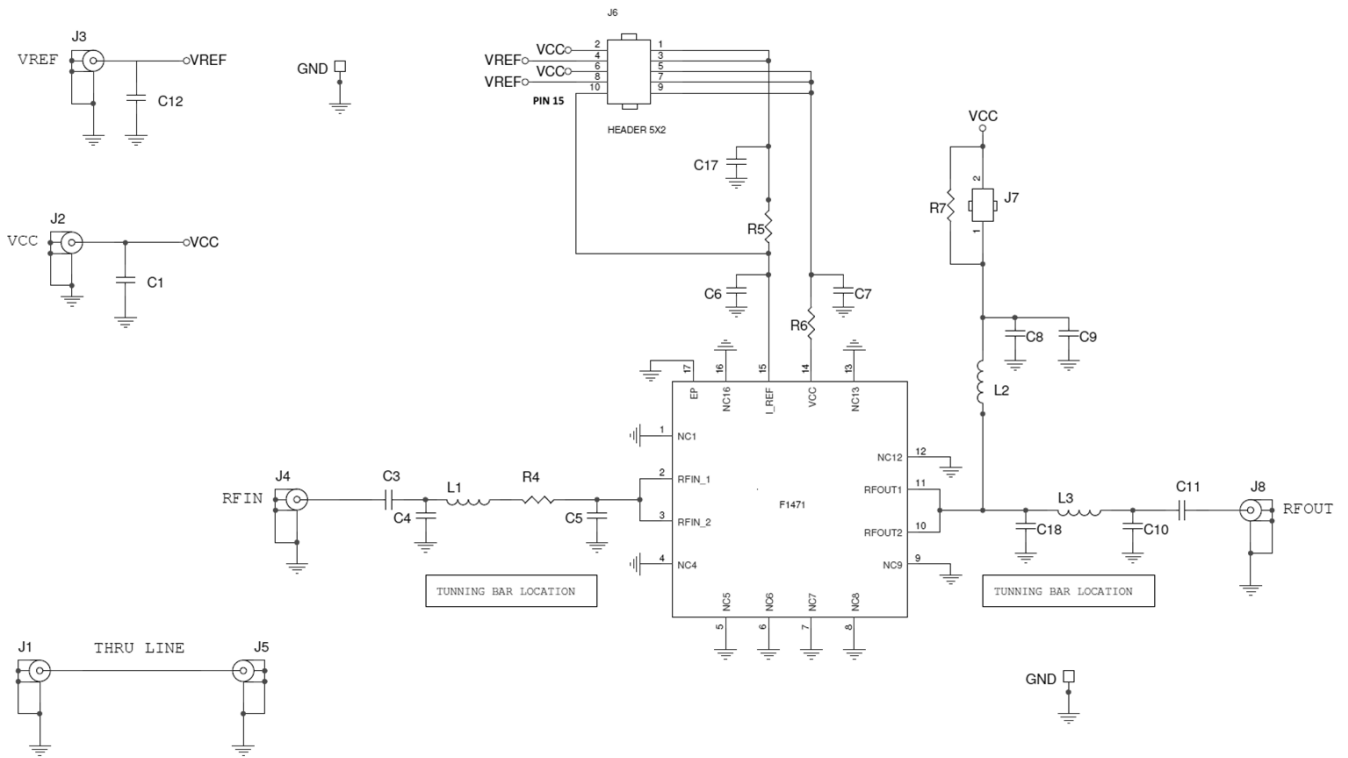

Figure 27. Electrical Schematic for the Evaluation Kit
- Always place the Shunt Jumper to bias the amplifier output (see Evaluation Schematic in Figure 27).